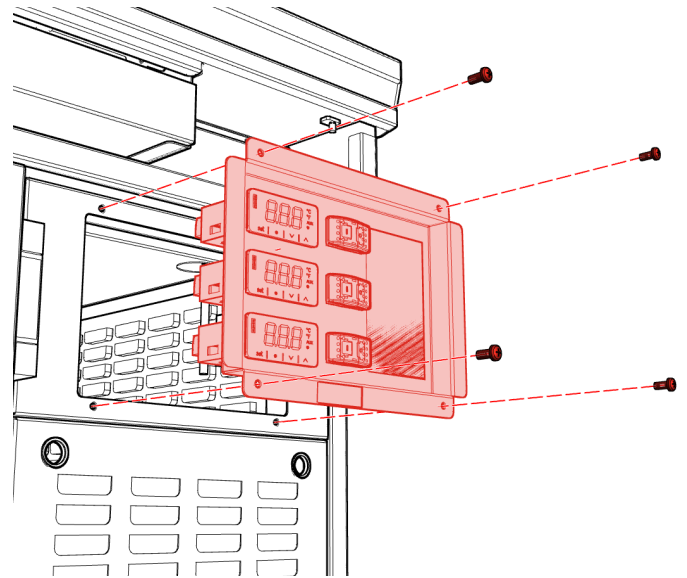

Fig. 1
1. Remove four (4) M5 × 12 screws fastening controller frame to front of unit (Fig. 1).